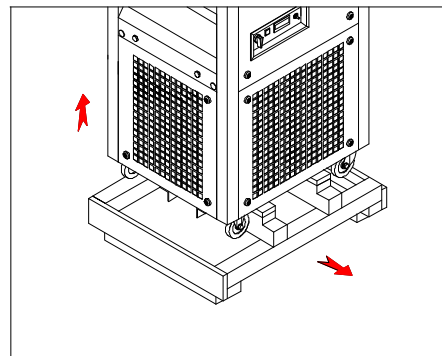

Figure 4-2
- C. Raise the freezer, then draw out the pedestal (Figure 4-2).